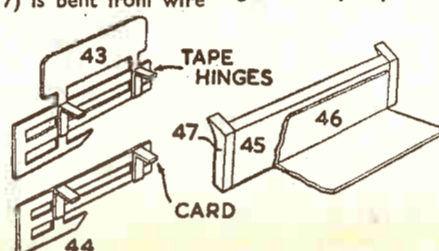

Fig. 8—The lifeguards
Fig. 8 shows pieces 45, 46 and 47 glued together. These are glued under the floor (3) directly under pieces 6 and 7. Piece 47 is clearly shown in the finished